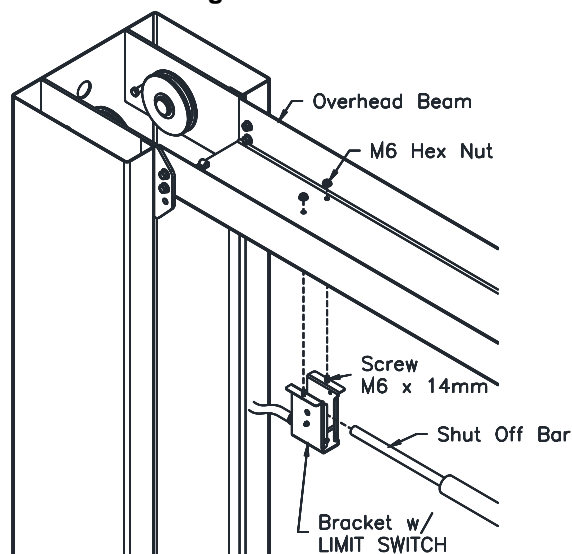

Fig. 5 – Overhead Limit Switch Power Side
- 14) Install Overhead Limit Switch to the Overhead Beam using the rear set of holes on the Power Side of the lift. **Fig. 5.**